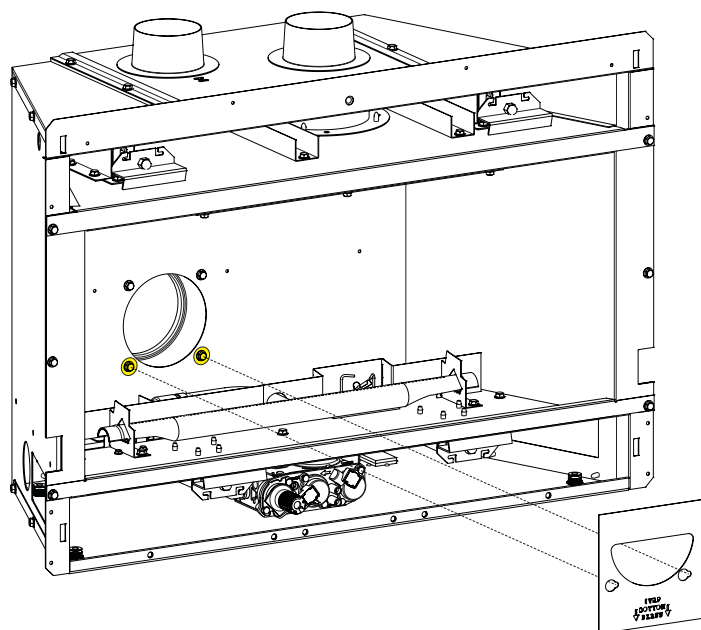

Figure 12
4. Loosen the two bottom screws that secure the inlet air duct collar at the rear of the firebox. See Figure 12.
5. Place the restrictor plate over the intake opening, align the plate with the loosened screws, shift the plate on the keyhole slots, then re-tighten the two screws. See Figure 12 for locating the Inlet Air Duct opening.